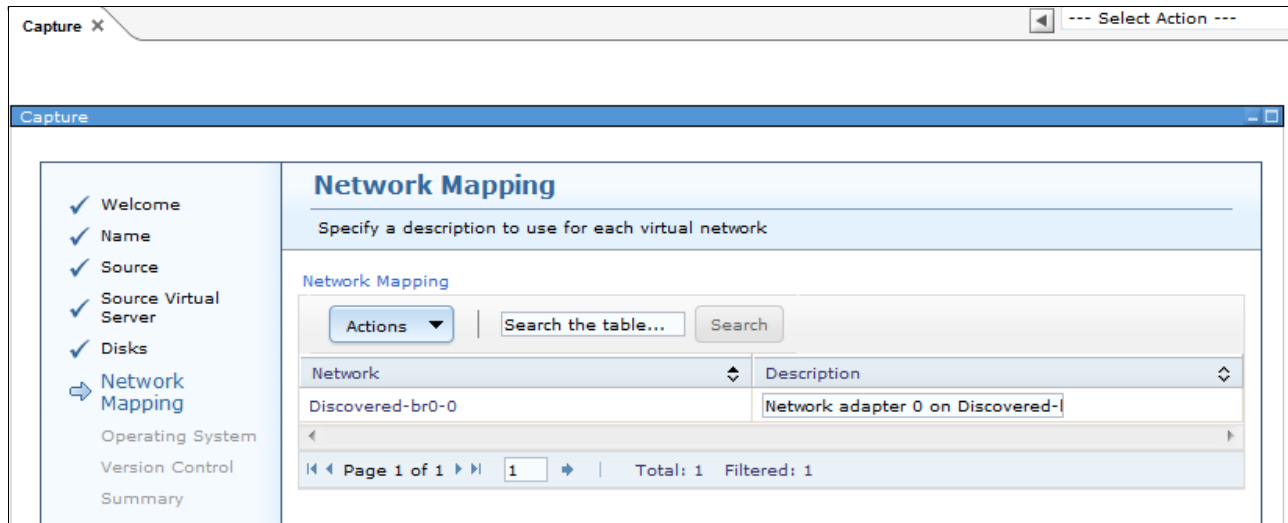

Figure 3-84 VMControl Capture wizard: Network Mapping
17. In the Network Mapping window, specify the virtual appliance network mapping settings, as shown in Figure 3-84. Click **Next**.